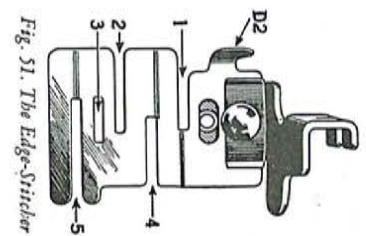

Fig. 51. The Edge-Stitcher
will be found an indispensable aid whenever stitching must be kept accurately on extreme edge of material. The slots, numbered from 1 to 5 in Fig. 51, serve as guides for sewing together laces, insertions and embroideries, sewing in position hemmed or folded edges, piping or sewing flat braid to a garment.
Fasten edge-stitcher to presser bar. See that needle enters center of needle hole. The distance from line of stitching to edge of material in slots can be regulated by moving lug D2, Fig. 51 to the right or left.
2. Insert piping with its folded edge to the left in slot 3 and edge to be piped in slot 4, Fig. 51.
1. Place garment under edge-stitcher and tape in slot 1 or 4, Fig. 51.
2. Insert edge in slot 5, Fig. 51 and adjust lug D2 to stitch as close to edge as desired.
3. Insert creased folds in slot 1, Fig. 51 and adjust edge-stitcher to the right or left for desired width of tuck.